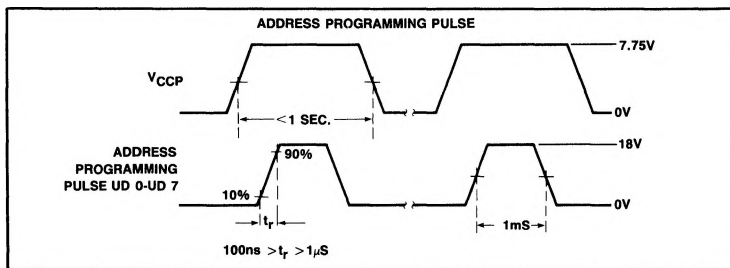

Figure 1
3. After  $V_{CC}$  has stabilized, apply a single programming pulse to the user data bus bit where a low-level match is desired. The voltage should be limited to 18V; the current should be limited 75mA. Apply the pulse as shown in Figure 1.